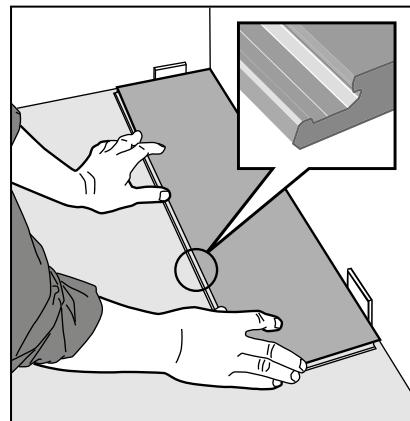

Figure 11 First plank, first row
► The tiles and planks (panels) are laid without glue. Start to lay the floor in the left-hand corner of the room with the lower male profile facing towards you (Fig 11).